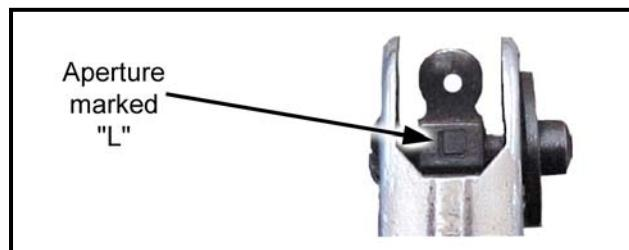

Figure 2-3. M16A1 rifle battlesight zero.
(2) **Battlesight Zeroing the M16A1.** If necessary, the soldier should use the aperture marked "L" to battlesight zero the weapon (Figure 2-3). Table 2-3 and Table 2-4 (page 2-4) show how much one click of elevation or windage will move the strike of the round from a 25-meter zero all the way out to 500 meters.